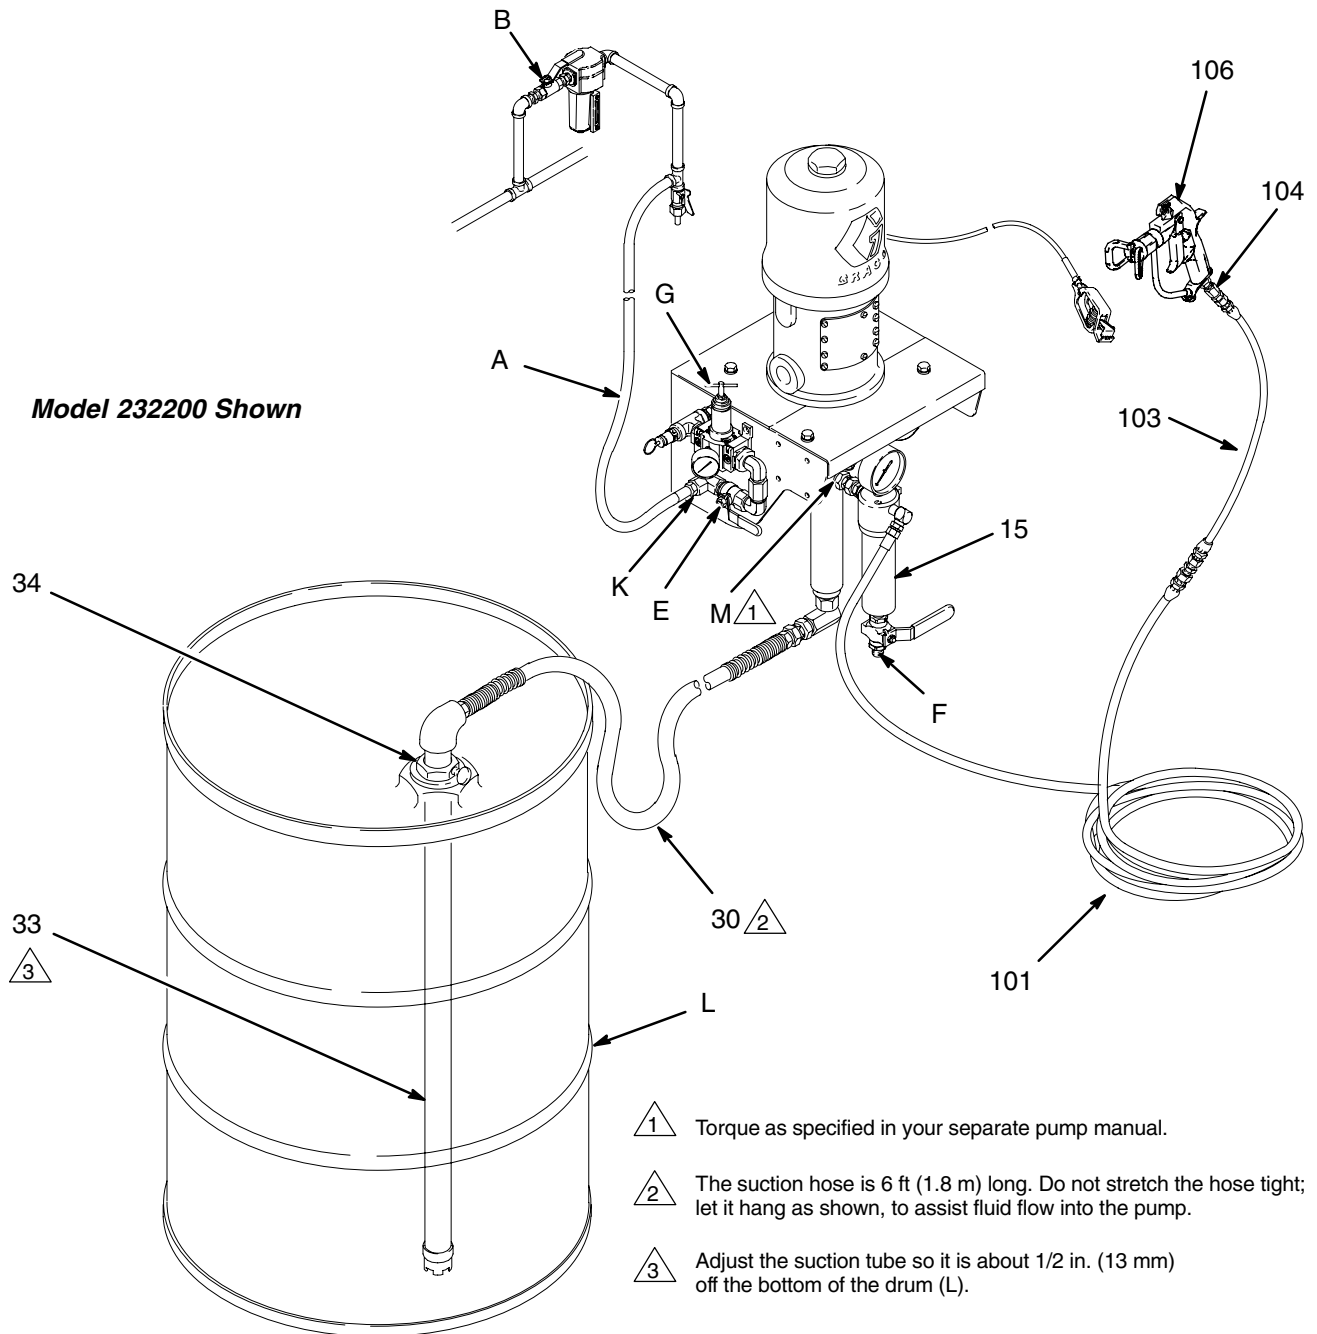

Fig. 3
2. Close the red-handled bleed-type master air valve (E, required in your system). See Fig. 3.
Before starting, fill the packing nut (M) 1/3 full with Graco Throat Seal Liquid (TSL) or compatible solvent. See Fig. 3.
1. See Fig. 3. Remove the tip guard and spray tip from the gun (106). Refer to the gun manual.
2. Close the pump air regulator (G), and bleed-type air valves (B, E).
3. Close the fluid drain valve (F).
4. Connect the air line (A) to the air inlet swivel (K).
6. Position the drum (L) close to the pump. The suction hose (30) is 6 ft (1.8 m) long. Do not stretch the hose tight; let it hang as shown in Fig. 3, to assist fluid flow into the pump.
7. Place the pump suction tube (33) into the drum. On carbon steel models, screw the bung adapter (34) into the drum's bung hole. Adjust the suction tube so it is about 1/2 in. (13 mm) off the bottom of the drum, then tighten the thumbscrew.